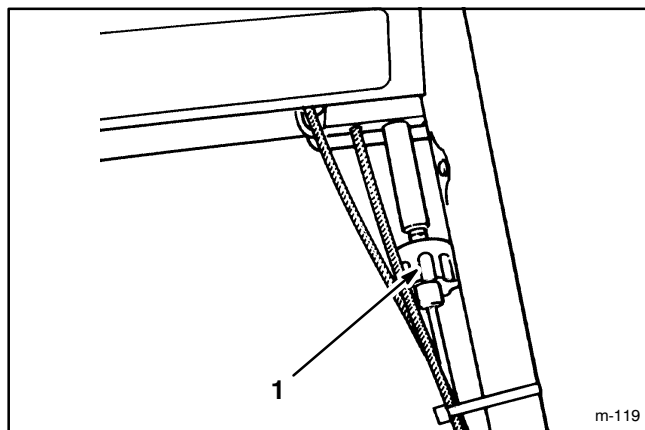

Figure 25
3. To adjust wheel drive cable, rotate knob under left front of control panel (Fig. 25). Rotate knob in positive (+) direction to increase distance between control bar and handle. Turn knob in negative (–) direction to decrease distance between control bar and handle.